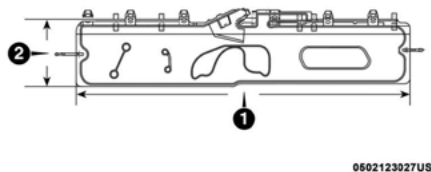

Figure 5 - Curtain Deflated View
3. Supplemental Side Air Bag Inflatable Curtain (SABIC) Deployment Zone (Figures 5, 6, 7, and 8)